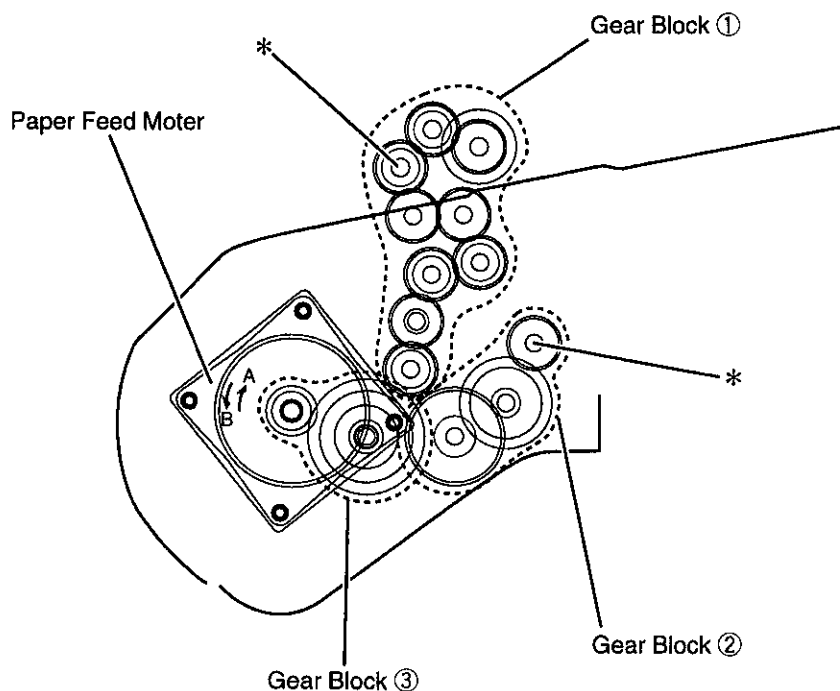

Fig. 6-3
- (1) Paper Feed Motor drives either Paper Feed Roller mechanism or Hopper Lift mechanism by selecting the direction of rotation.
- (2) The drive system is shown on Fig.6-3.
- (a) The gear block ① belongs to Drive system for Paper Feed Roller and Separation Roller.
- (b) The gear block ② belongs to Drive system for Hopper Lift.
- (c) The gear block ③ belongs to Drive system for Paper Feed Roller, Separation Roller, and Hopper Lift in common.
- (1) Hopper Plate is mounted on Lift Roller of Hopper Lift Arm.
- (2) Hopper Lift Arm is supported by Hopper Cam through Hopper Spring.
- (3) Hopper Cam is an eccentric type cam, and is connected to Hopper Lift Gear block mentioned in Fig. 6-3.